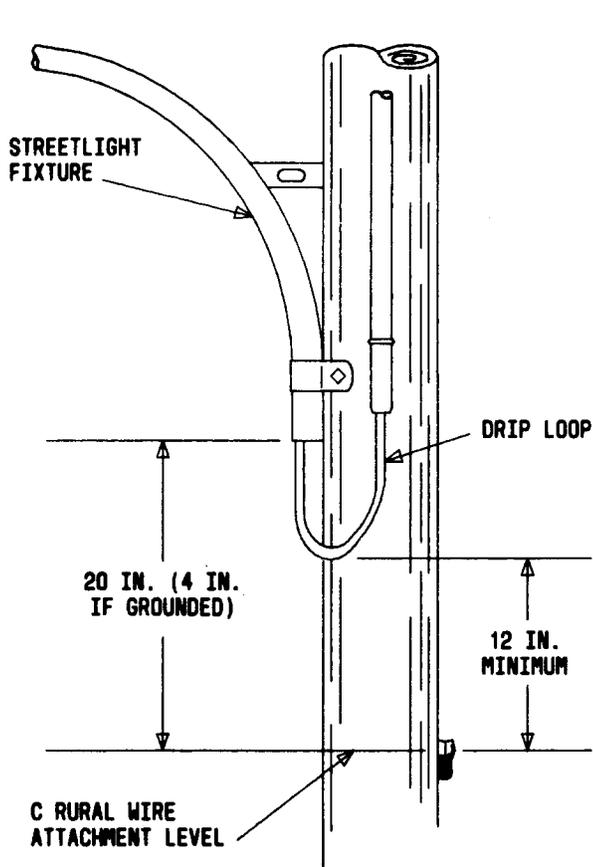

Fig. 15—Clearance From Streetlight Fixture Drip Loop Above C Rural Wire
4.02 Clearances from streetlights, traffic lights, trolley wires and associated fixtures, brackets, and wiring are shown in Table E. Figures 15, 16, and 17 are referenced in Table E.
STREETLIGHT FIXTURES AND ASSOCIATED WIRING (FIG. 15 AND 16)